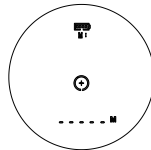

Figure 7
**Failure measurement:** Failure Measurement shows like figure 7. The product will shut down automatically in 8 seconds without any operations. Press the power button again and it will start on.